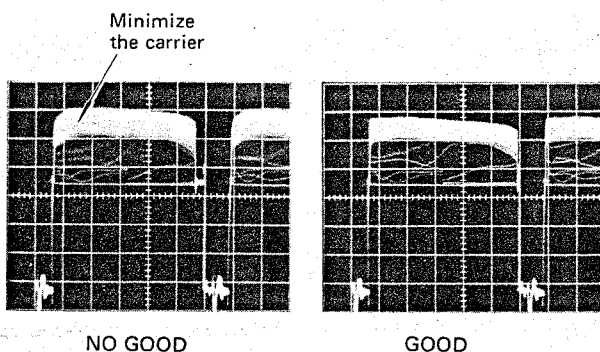

Fig. 6-4-11
- Adjust H. SIZE VR222 so that the carrier (3.58MHz) on the Y signal at TP303 is minimum. (Fig. 6-4-11)